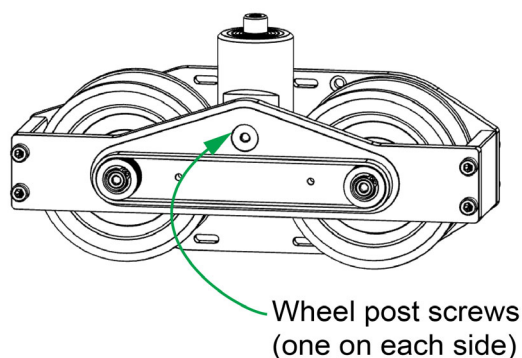

Figure 18 - Exposed Drive Wheel Post Screws
3. Use a 5 mm hexagonal wrench to secure the two screws into the new post, as shown in **Figure 18**.